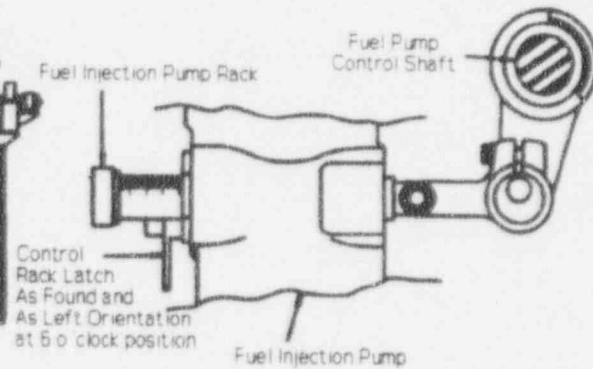

FIGURE 2
- b. Reference Figures 2 and 3 when performing the following steps.
- d. Install cylinder pressure gauge by threading the body wingnut (B) onto the cylinder petcock.
- e. Loosen gauge bolt wingnut (A) and position gauge to a readable position, then retighten wingnut.
**NOTE:** It is imperative that both wingnuts (A) and (B) be securely tightened to obtain an accurate reading.
- n. While holding the fuel injection pump rack, disengage the control rack latch, then release the fuel rack. Note the orientation of the disengaged control rack latch is the 6 o'clock position. (Refer to Figure 2)
- p. Verify that all control rack latches are in the 6 o'clock position. A control rack latch may engage when the engine is shutdown if the latch is left on top of the fuel injection pump rack when the latch is disengaged. (Refer to Figure 2)